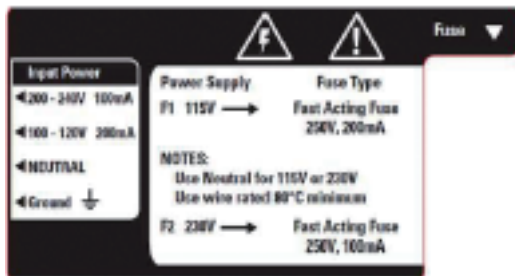

Figure 2.3 Power Supply
- Power supply – Refer to Figure 2.3.
6. Plug the terminal connector into the power supply. Refer to Figure 2.3.
7. Select the correct fuse from the fuse kit. Install by inserting the fuse in the fuse holder and secure it using the twist and lock method. The fuses are clearly labeled with the appropriate voltages for your system. Refer to Figure 2.3. Refer to the table below for fuse selection.